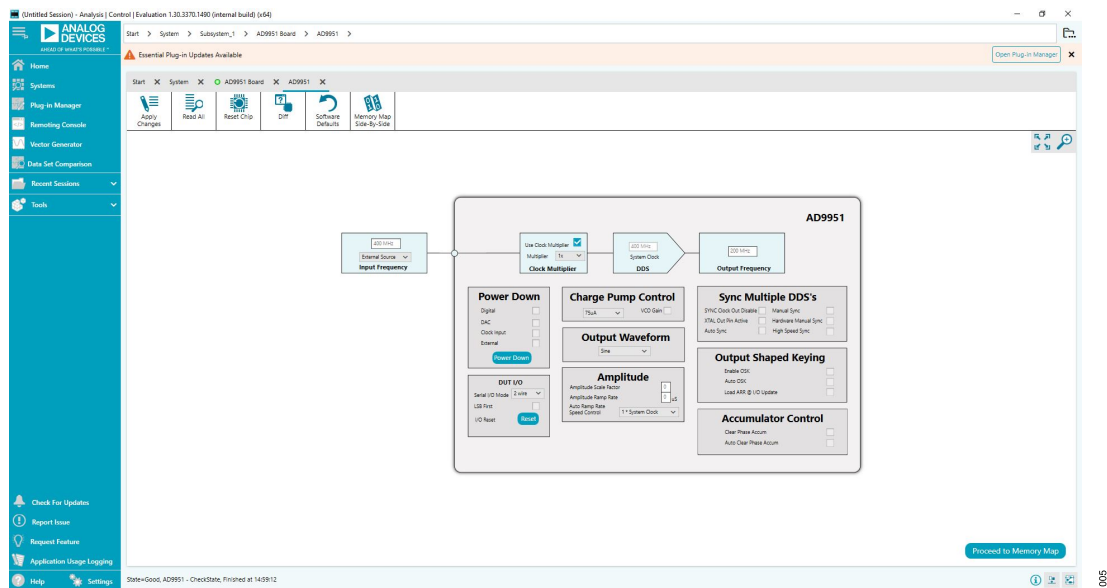

Figure 5. ACE Software Front Panel
3. Double-click the **AD9951** icon that appears on the board GUI to open the main control window shown in **Figure 5**.
The main controls are shown in the Figure 5. To modify any controls, take the following steps:
2. Modify any **ACE Software** front panel settings as required (see Figure 5).
3. Click **Apply Changes** to load the modified settings to the **AD9951**, which then performs the write sequence. If the **System Clock** frequency and **Output Frequency** selected are outside of the operational range, an error message will appear within the GUI. Specific blocks can be powered down by setting the corresponding power-down check boxes within the **Power Down** section shown in Figure 5.
The **Input Frequency** section shown in Figure 5 allows users to configure the reference clock.
The **Clock Multiplier** section shown in Figure 5 allows users to select the phase-locked loop (PLL) multiplication factor ($4\times$ to $20\times$) by which to scale the input frequency. The default setting of this dropdown menu is $1\times$, indicating that the **Clock Multiplier** circuitry is bypassed and that the input frequency and crystal input are piped directly to the DDS core.
The **System Clock DSS** section shown in Figure 5 displays the operating frequency of the DDS core (system). The value within this box is derived from the value entered and selected in the **Input Frequency** section and the **Multiplier** selected in the **Clock Multiplier** section by the user.
To customize the channel output configuration, go to the **Output Frequency** section shown in Figure 5. By default, the channel output operates in single tone mode.
Users can go to the **Power Down** section shown in Figure 5 to power down any of the following:
To control the current settings on the charge pump, go to the **Charge Pump Control** section shown in Figure 5. The default value of the charge pump current is **75µA**. Other dropdown menu options included the following: **100µA**, **125µA**, or **150µA**.
In the **Output Waveform** section shown in Figure 5, users can select either a **Cosine** or **Sine** function for the angle-to-amplitude conversion. The default setting is **Cosine**.
Use the **Amplitude** section in Figure 5 to set the **Amplitude Scale Factor**, **Amplitude Ramp Rate**, and **Auto Ramp Rate Speed Control**.
The SYNC_CLK pin is active by default within the **Sync Multiple DDS's** section of Figure 5. When the **SYNC Clock Out Disable** feature is enabled (checked off), the SYNC_CLK pin assumes a static Logic 0 state to minimize the noise generated by the digital circuitry. The synchronization circuitry remains active internally to maintain the device timing.
The shaped on-off keying function is enabled or disabled using the **Output Shaped Keying** section shown in Figure 5 by enabling (checking off) **Enable OSK**. The OSK function allows users to control the ramp-up time and ramp-down time when turning the DAC on or off. This function is primarily used in burst transmissions of digital data to reduce the adverse spectral impact of short, abrupt bursts of data.
In the **Accumulator Control** section of Figure 5, the following options are available:
The **DUT I/O** section shown in Figure 5 controls the I/O configuration for the device. Click the **Reset** button of the **I/O Reset** to send an I/O reset to the corresponding serial port state machine. Select the **LSB First** box to change the data format to LSB first from the default setting of MSB first. Use the **Serial I/O Mode** dropdown menu to select the desired I/O mode of operation: **2 wire** or **3 wire** (which is the default).